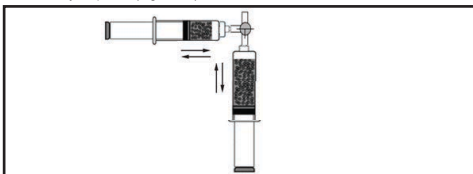

Figure 10.
- 2.4 Attach the microsphere-drug loading syringe and the second drug syringe to a 3-way stopcock (Figure 10).